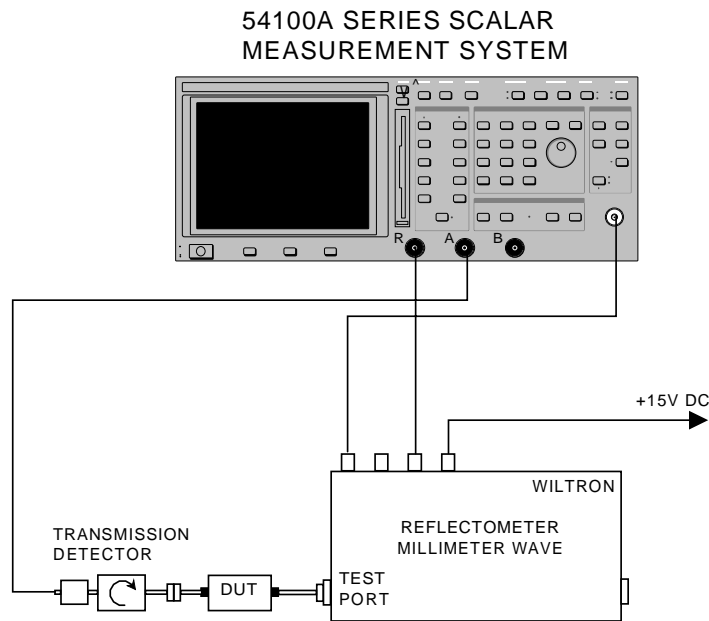

Figure 3. ANRITSU 54000-5WRXX mm Source Module
- Step 1.** Connect DC power to the Source Module POWER INPUT connector as described in paragraph 3 above. (See Figure 3.)